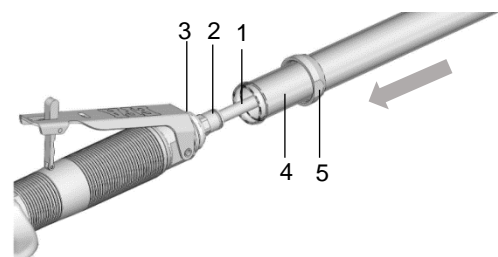

Fig. 5.1 – Compressed air hose connection
- 1) Insert the air hose (1) completely into the screw-in fitting (2) on the valve housing (3) of the EFA CT, ensuring a secure hold. See *Fig. 5.1*.
- 2) Guide the air-outlet hose (4) through the union nut (5) and push it onto the valve housing of the EFA CT. See *Fig. 5.1*
- 3) Screw the union nut (5) onto the valve housing (3) of the EFA CT. See *Fig. 5.1*.